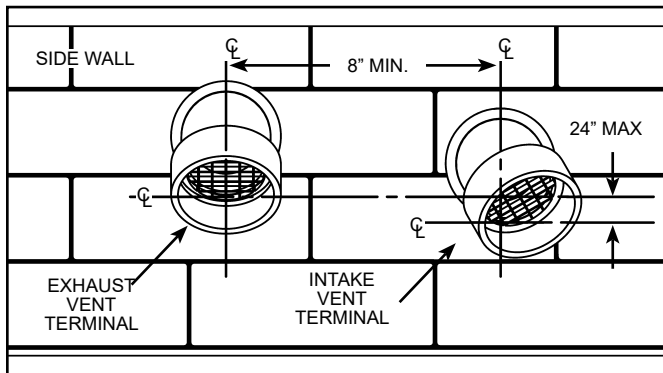

Figure 22.
**Important:** When terminating the vent on a side wall, the following specifications pertaining to terminal location must be followed (see Figure 22).
4. To avoid exhaust recirculation, the air intake terminal may be rotated away from the exhaust vent terminal (see Figure 22).